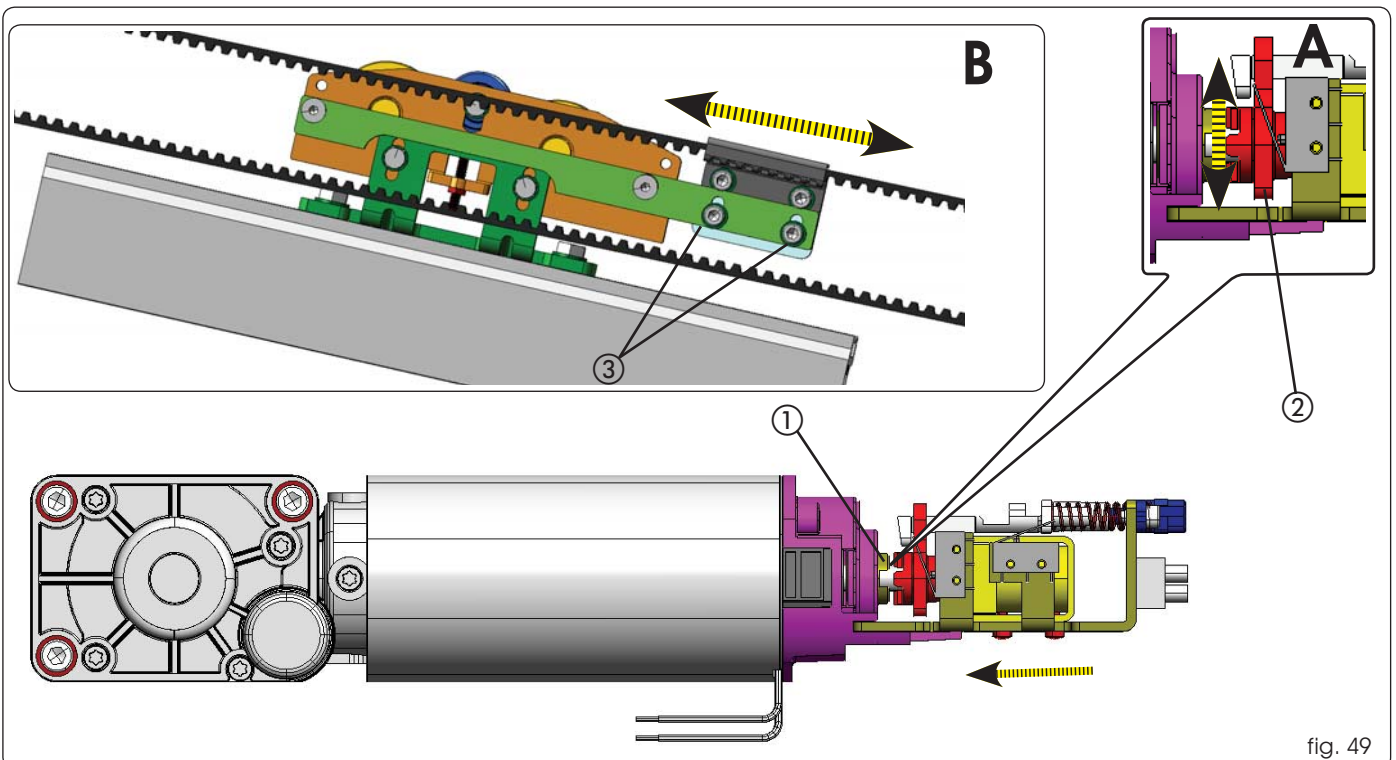
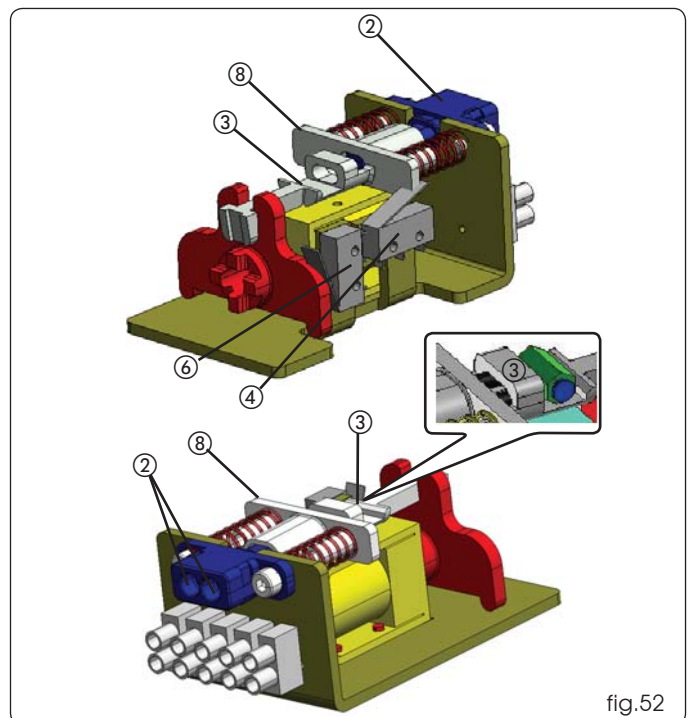

fig. 49
fig.52
- Manually push the lever (fig.49 ref. ①) toward the motor shaft, checking correct coupling as shown in fig. 49, ref.A).
- Move the lever (fig.49 ref.②) vertically and look for any play between the motor shaft and motor lock coupling.
- Loosen the two screws (fig.49 ref B ③) which connect the belt fitting to the drive carriage (on both carriages for double leaves).
- Approach the cable with sheath to part ② of fig. 52 and cut the sheath in excess.
- Route the cable (fig. 52 ②) inside part a taking the sheath to end.
- Insert the cable in the clamp (fig. 52 ref. ③).
- Pull the part ⑧ to its end (by compressing the springs) and screw the clamp screw ③ thus blocking the steel cable.
- Check if the motor lock coupling is free from the motor shaft coupling (fig. 49 ref. A).
- Release the knob by turning it 90° and check if the release device operates. Make sure that, by pulling the knob, the door opening microswitch activates (fig.52 ref ④).
Consult these instructions in the section concerning the control board to perform the electrical connection of the motor lock. If an external release device must be fitted, use the relevant key-operated push-buttons. Insert the release cable on the motor lock using the relevant seat fig.52 rif. ②.
Install the supervision microswitch as shown in Fig. 52 ref. ⑥. For electrical connection and programming, refer to the control board/accessories section of these instructions.